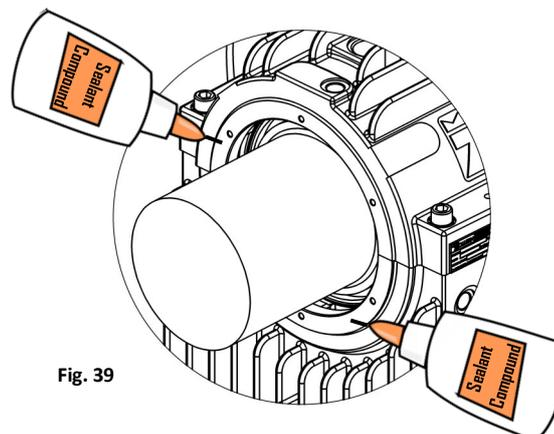

Fig. 39
- The face of bearing housing on a seal seat region (fig. 39)